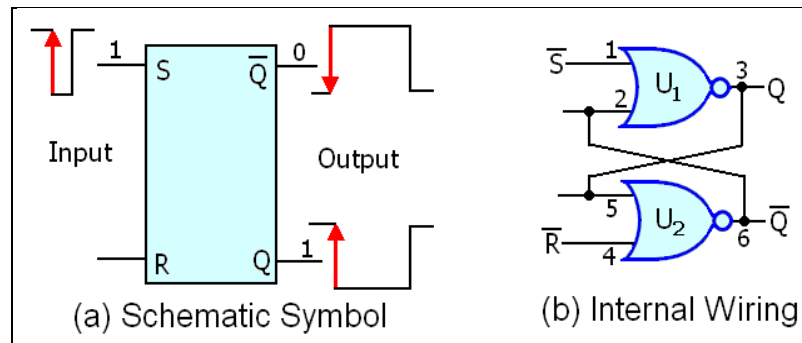

Fig. 3.3-4 RS-Flip/Flop using SN7402 TTL Series NOR Gates
Fig. 3.3-4 shows the Set/Reset flip-flop, called the RS-latch using NOR gates with schematic symbol in (a) and internal wiring in (b). The RS flip-flop, using NOR gates, has two active high inputs, Set (S) and Reset (R), and two outputs Q &  $\bar{Q}$ .